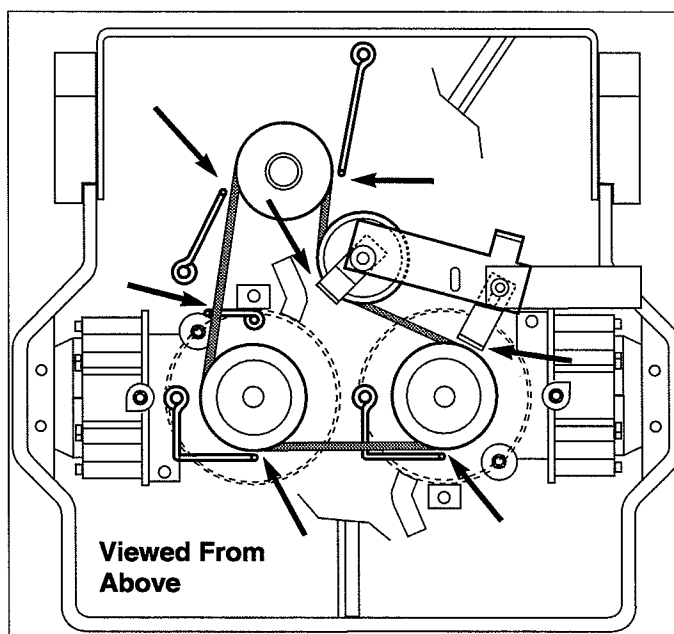

Figure 35. Drive Belt Guide Positions
9. Release the parking brake and adjust the belt guides pictured in Figure 35 (belt guide clearance points are indicated with arrows). There should be 1/16"-1/8" between the belt and the belt guides.